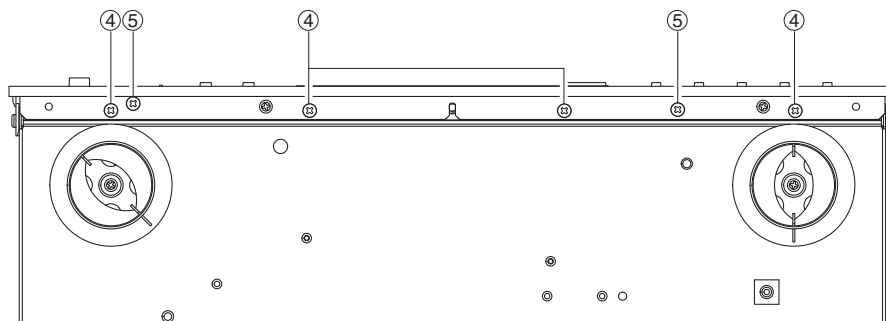

Fig. 2
- c. Remove 4 screws (④) and 2 screws (⑤). (Fig. 2)
- c. ④のネジ4本、⑤のネジ1本を外します。(Fig. 2)